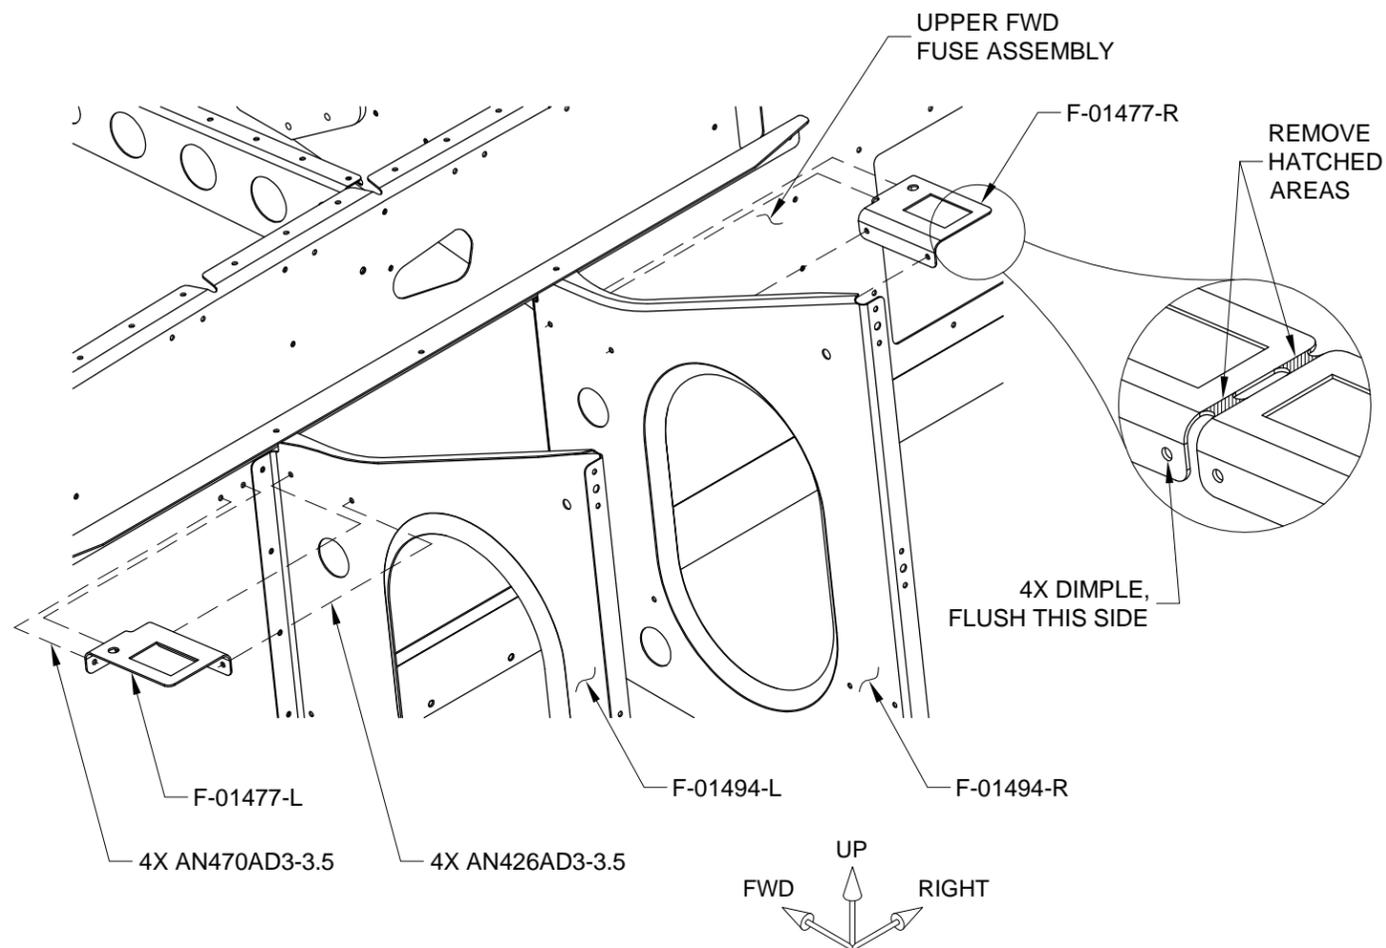

FIGURE 1: INSTALL CONNECTOR BRACKETS
Step 1: Dimple the F-01477 Connector Brackets where indicated in the Figure 1 detail view.
Step 2: Separate the F-01477 Connector Brackets as shown in the Figure 1 detail view.
Step 3: Install the F-01477-L & -R Connector Brackets to the Upper Fwd Fuse Assembly and F-01494-L & -R Instrument Panel Stand-Offs as shown in Figure 1.